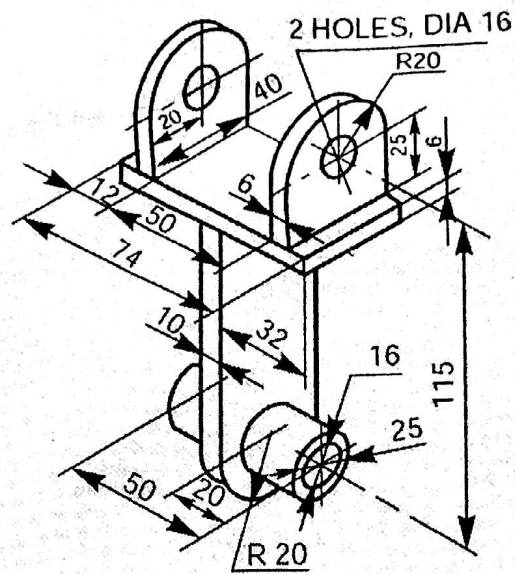

Fig.2
- Q.3 Draw front view, top view and side view of the swing bracket as shown in Fig.2 and indicate suitable joints (using symbols) in the three views in order to fabricate it. (Marks: 16)